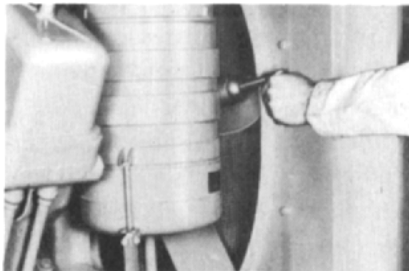

Fig. 40. Fan
5. Grease the diesel-engine fan bearing. See Fig. 40. Recommended lubricant--G-E Ball-bearing Grease. 8. Change the oil in the air compressor. See Fig. 24A. Recommended lubricant- -good grade of compressor oil. 9.